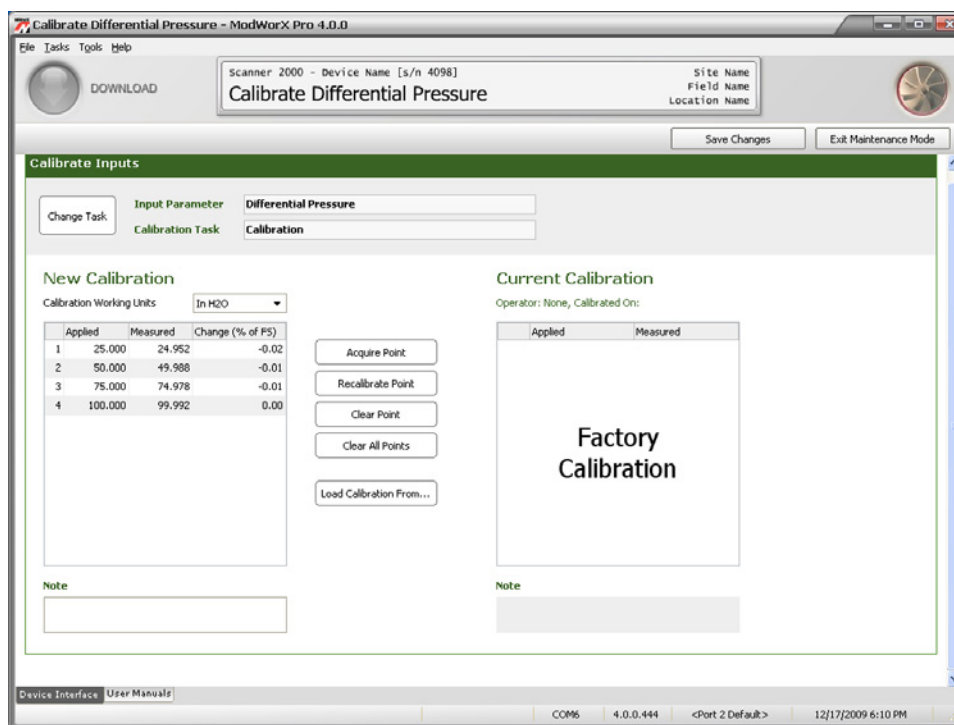

Figure 8.8
8. When a measured value is indicated, click **OK** to save the calibration point and return to the Calibrate Differential Pressure screen (Figure 8.8, page 112). The New Calibration table is updated with the applied pressure, the measured value, and a percentage of change. The percentage of change is expressed as a percentage of full scale, and is a measure of how the calculated value will change based on the new calibration with respect to the previous calibration.